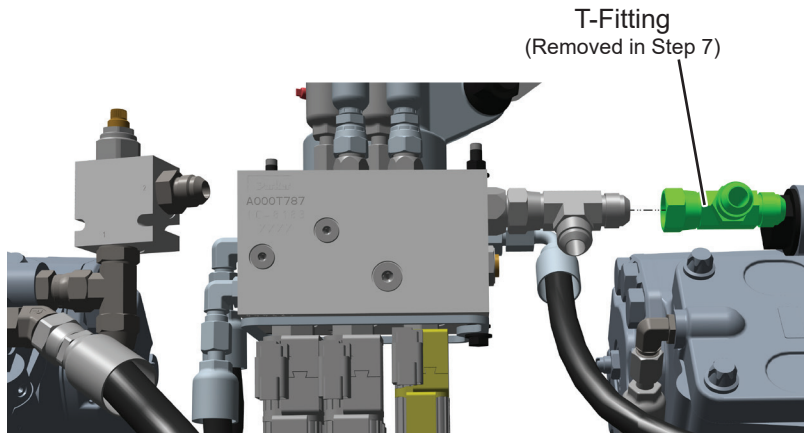

Figure 9. Chute Manifold T-Fitting Installation
11. Install outer T-fitting removed in Step 7 on inner T-fitting installed in Step 10. See Figure 9. Orient T-fitting and final tighten to 58 ft. lbs.